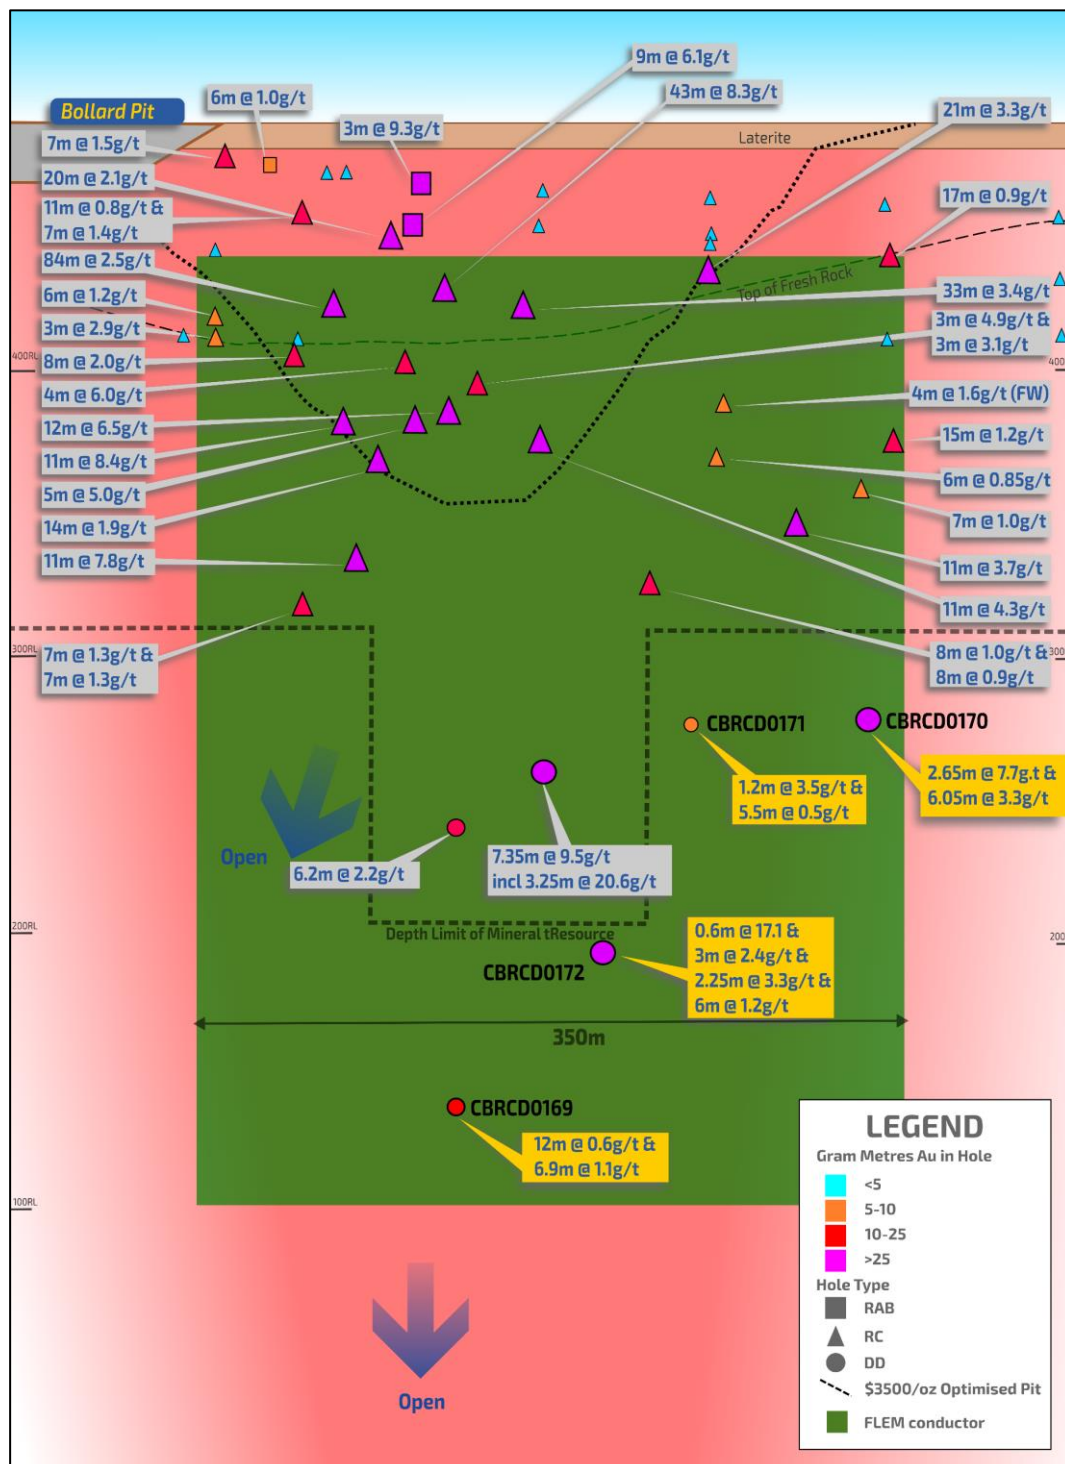

Figure 1 - Highway Zone Long Section with recent results in yellow.
A four (4) hole diamond drill program was recently completed at the Highway Zone. All holes successfully intersected sulphide mineralisation in the target position predicted by geological modelling and the FLEM (see Figures 1 and 4).